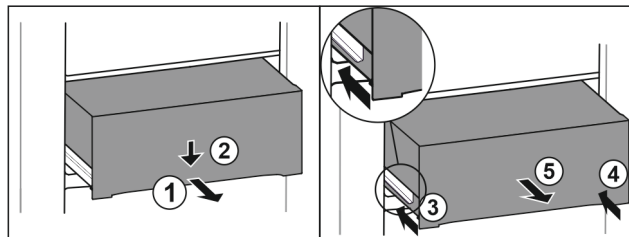

Fig. 114
- Pull out the drawer halfway. Fig. 114 (1)
- Press down the drawer on the front. Fig. 114 (2)
- Push in the left rail approximately 2 cm. Fig. 114 (3)
- Push in the right rail approximately 2 cm. Fig. 114 (4)
- Remove drawer to the front. Fig. 114 (5)